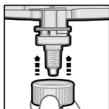
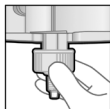

Fig. 3
Fig. 4.1
5. When the mixing tip is in the correct position (Fig. 3), push the Dynamix fixation ring over the mixing tip until it stops and turn it clockwise (1/4 turn) until it is securely locked in place (Figs. 4.1, 4.2 and 5)